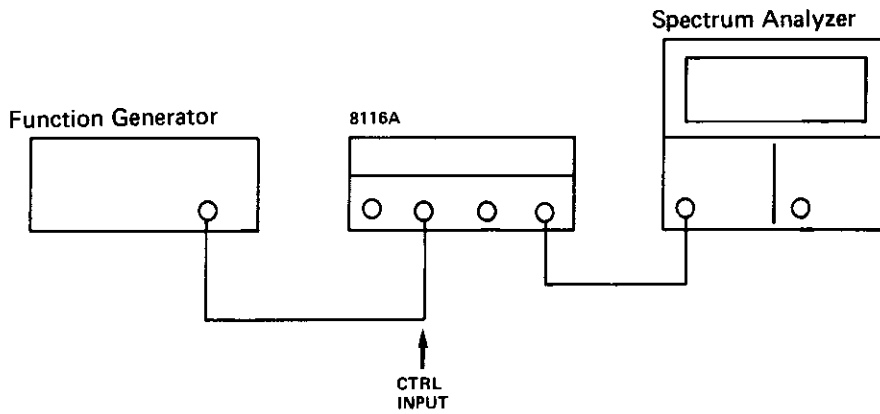

Figure 4-12. Test setup for AM
1. Connect the equipment as shown in Figure 4-12.